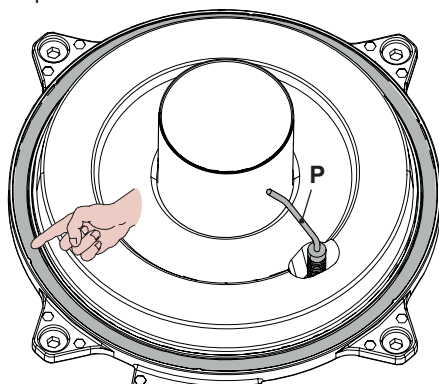

Fig. 10.14
- The silicon seal on the front wall of the combustion chamber Fig. 10.14 must be replaced if worn.
- The detection electrode "P" in Fig. 10.14 also functions as a sensor for the correct drainage of the condensate. Should the mentioned electrode come into contact with the condensate water present within the combustion chamber it sends the boiler into safety lockout. Therefore, should the insulation be wet or deteriorated, provide for the substitution of the same.
Caution: After any periodical servicing or disturbance the combustion chamber silicon seal Fig. 10.14 must be fully inspected and replaced at the discretion of the service engineer.